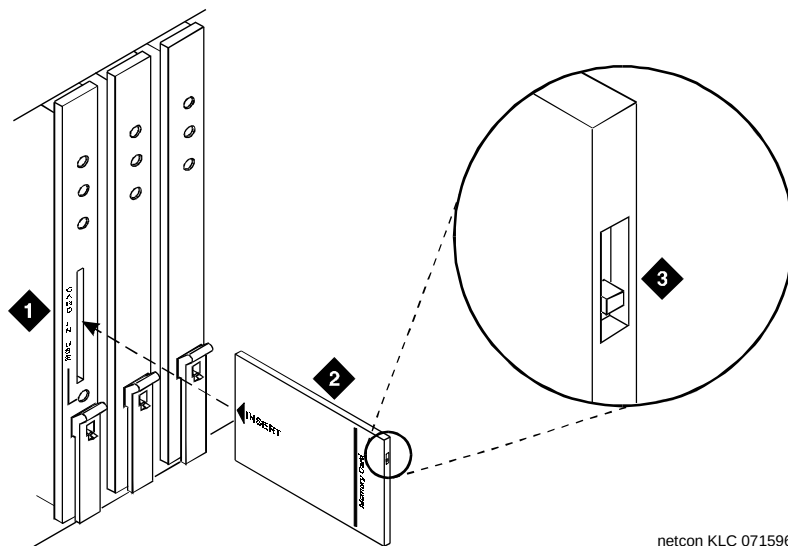

Figure 6-1. Record Switch on Translation Card
6. Verify the switch on the outside edge of the memory card is in the down position to record (see Figure 6-1).
7. Insert the original translation card into the slot on the TN777B faceplate. (See Figure 6-1.)